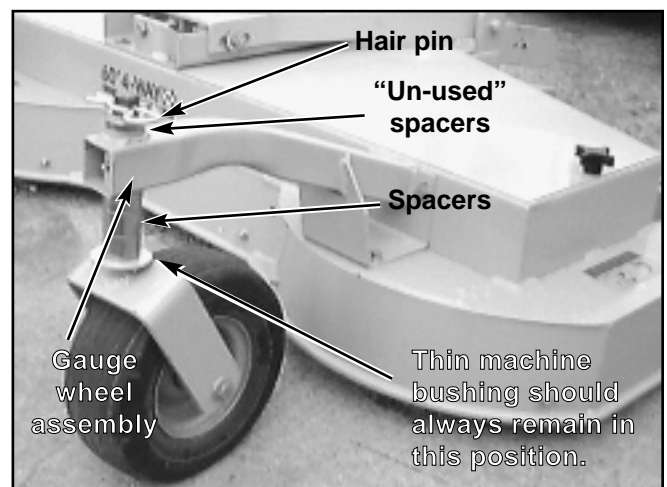

Figure 3-9
3. Remove hairpin (Fig. 3-9), then remove gauge wheel assembly from gauge wheel arm.
5. Replace gauge wheel, placing "unused" spacers on **top** of gauge wheel arm (see Fig. 3-9).